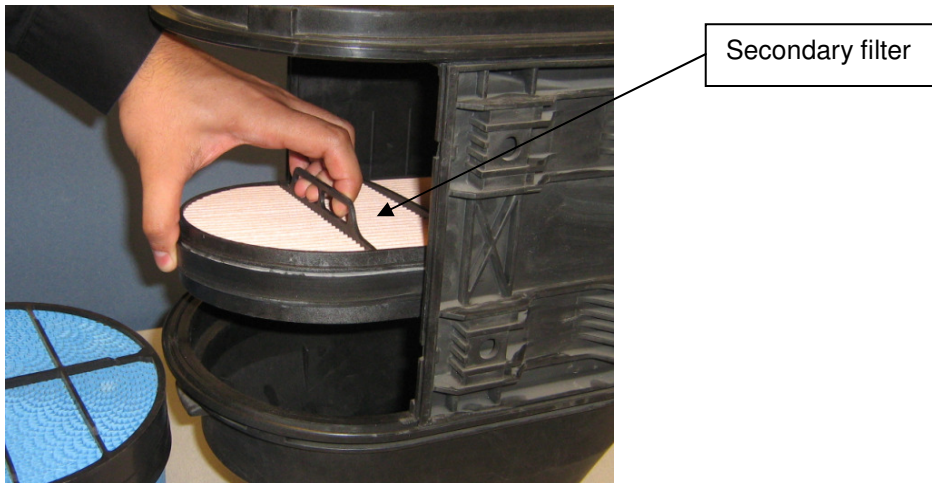

Figure 3: Secondary Filter Removal
9. If installed, remove the secondary filter by lifting up by the handle until free of seal and remove from the housing. See Figures 3.